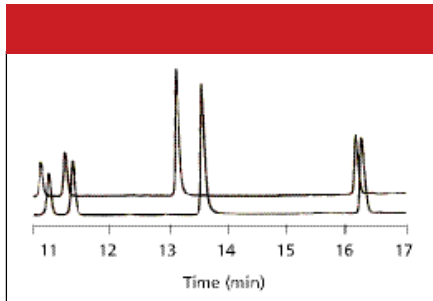

Figure 1: Two consecutive reversed-phase gradient runs showing larger retention errors for peaks near the gradient midpoint. See text for details.
Flow-rate or mobile-phase changes, as discussed earlier, are the most likely causes of retention, but other instrument problems can be the problem source. A recent "LC Troubleshooting" column (1) stressed the importance of checking proportioning-valve performance for low-pressure mixing systems. Several years ago, I observed a rather dramatic example of retention time change during a gradient run that resulted from poor proportioning performance (2). As shown in the chromatograms of Figure 1, retention-time variation in the middle of the run was greater than at either end. In two consecutive runs for this sample, the peaks that were eluted near 11 and 16 min differed by 0.10–0.12 min. This is larger than one would like but was not